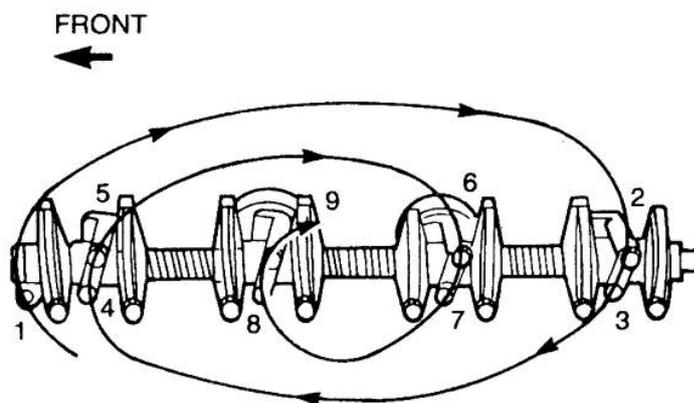

Figure 20 Removal of the Rocker Shaft
- aa. Slacken the rocker shaft retaining bolts in sequence (Figure 20) and remove the bolts and rocker shaft assembly.